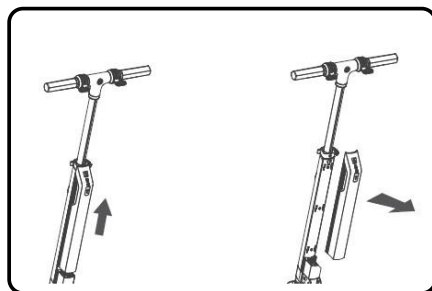

Figure 15
2. At the same time, lift the battery and then remove it from the drive (Figure 15).